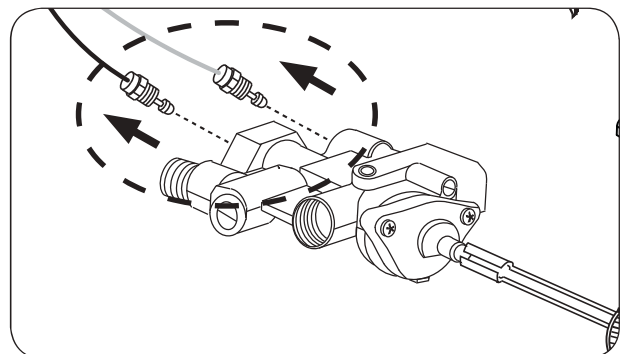

Fig. 9-2 Remove pilot assembly
1. Using an adjustable crescent wrench, carefully remove the pilot gas supply line and thermocouple lead from the valve as shown in Fig. 9-2.